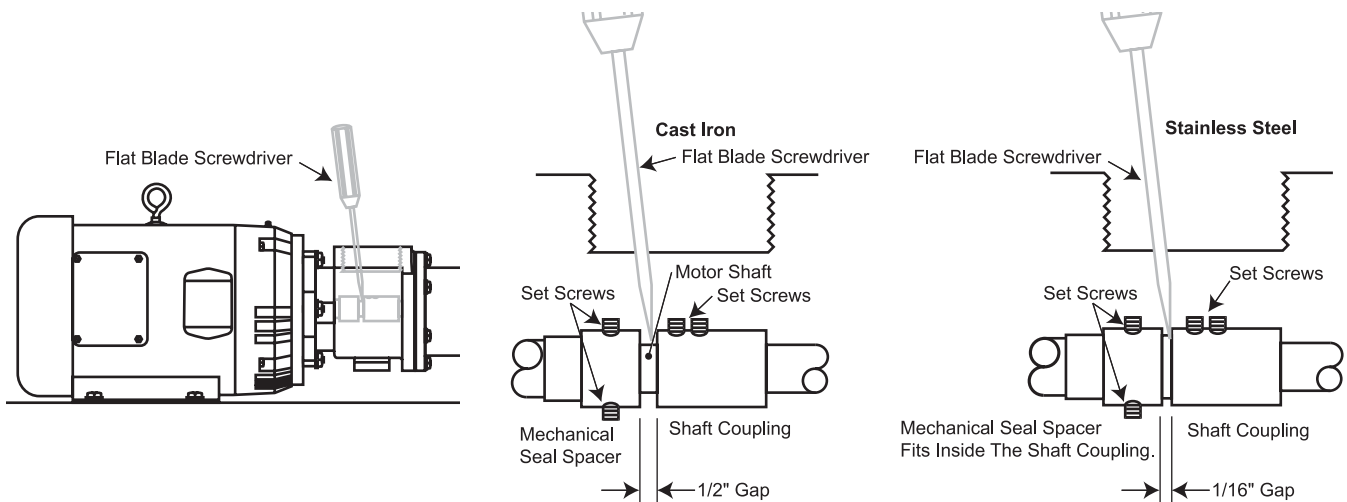

Figure 3
2. Disconnect the pump housing/discharge from the motor bracket. To do this, remove the four (4) 3/8 - 16 x 1 1/4 hex head bolts that attach the flange on the pump housing to the motor bracket. Now, twist and pull the pump housing off the shoulder on the motor bracket.
4. Grasp the stainless steel shaft sleeve bearing and pull the the pump shaft coupling off the motor shaft. If a pair of pliers is required, be careful not to damage the stainless steel shaft sleeve bearing. Wrap the bearing in protective covering. On longer pumps, it might become necessary to insert a screwdriver into the suction inlet of the motor bracket and pry the pump shaft coupling off the motor shaft. (See Figure 3)